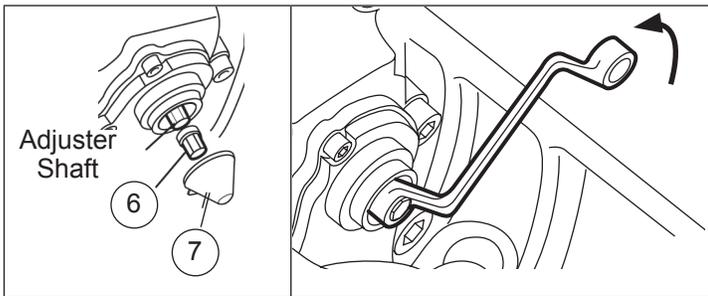

Figure 2 – Exploded View of Adjuster and Adapter
1. Remove and discard the pin retention clip (4) and washer (5).
2. While pressing against the pad hold down bar (2), remove and discard the hold down bar pin (3) and hold down bar (2).
3. Remove the adjuster cap (7) to expose the adjuster shaft (see *Figure 2*). Note the type of cap used.
4. Inspect the adjuster shaft adapter. If significant corrosion and/or damage is present, remove the adjuster adapter (6) using needle-nose pliers and replace it with the adjuster adapter (6) supplied in this kit.